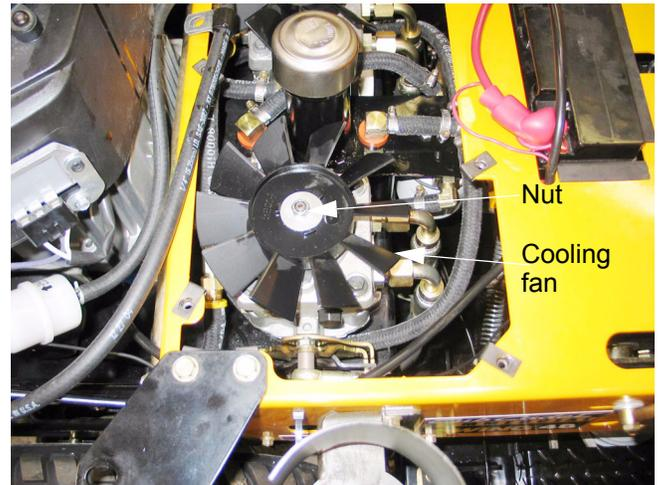

Figure 25.8
- 25.8. Remove the nut that secures the cooling fan using a 9/16" wrench. See Figure 25.8.